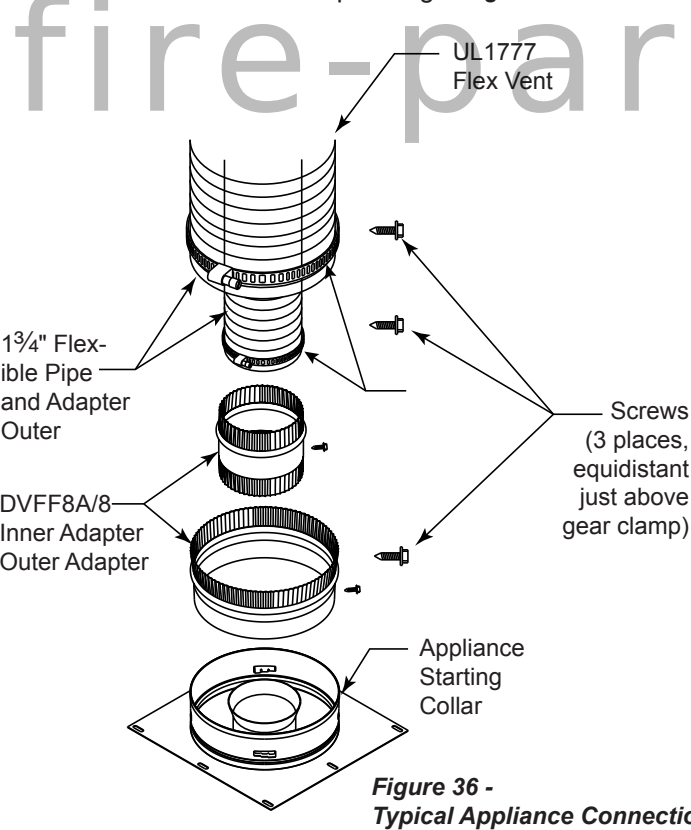

Figure 36 - Typical Appliance Connection
2. The flex adapter starter kit (DVFF8A/8) is used to attach flex venting to the appliance starting collar. It includes 5" inner and 8" outer adapter rings. *Figure 36*
- B. Installing the outer flex pipe. *Figure 36*